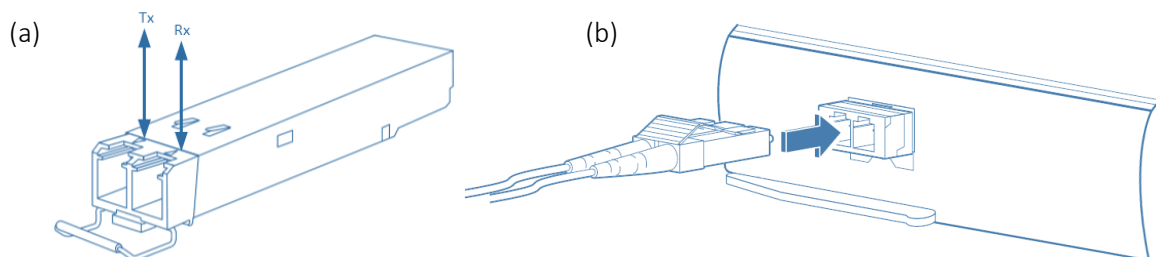

Figure 7 – Interface connecting to the SFP+ Module
- d. On Fiber channel 1 both the TX and RX fiber cables must be connected. On channels 1 through 3 only one fiber cable should be connected. This cable is connected between TX output (Marked with TX or Arrow outwards the SFP+) on the camera and RX input (Marked with RX or Arrow inwards the SFP+) on the Frame Grabber, as shown in Figure 7 (a).
3. Insert the fiber cable into the module, as shown in Figure 7 (b).